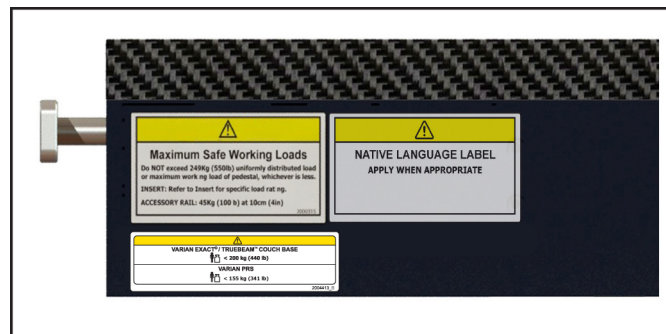

Fig. 43
2. Place native language, 2" x 4" CAUTION label, to the right of 2" x 4" current CAUTION label where appropriate. Refer to Fig. 43.